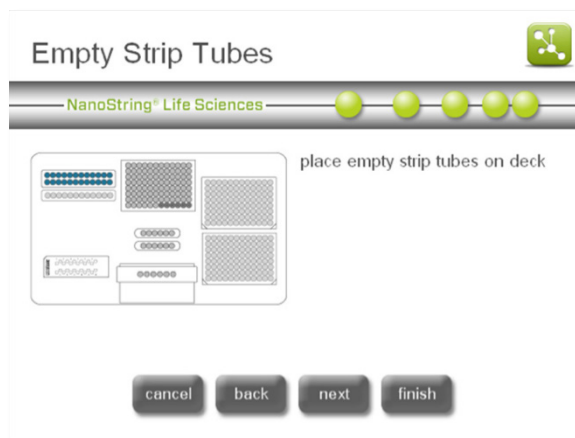

Figure 28: The 'Empty Strip Tubes' screen.
12. The 'Empty Strip Tubes' screen will appear (Figure 28). Place the empty strip tubes on the deck.